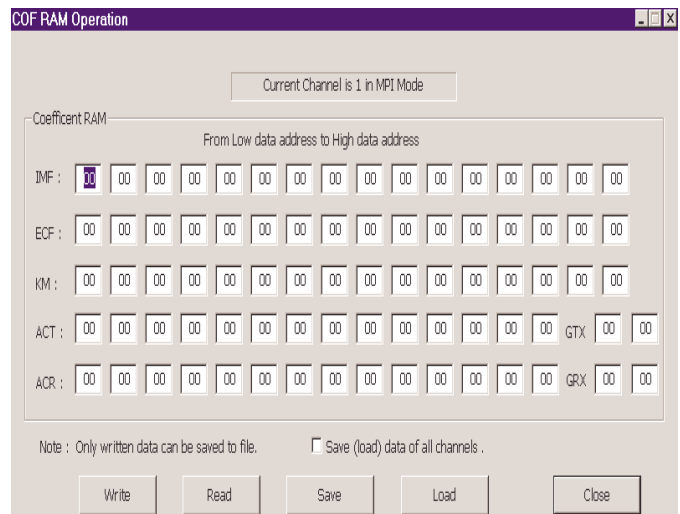

FIGURE 8. COEFFICIENT RAM OPERATION SCREEN
This test will demonstrate an end to end phone conversation between Channel 1 and Channel 2. Setting up an end to end phone conversation is accomplished with the Timeslot and PCM Highway Assignment screen (Figure 8). The IDT821068 has two PCM buses (DX1/DR1 and DX2/DR2) and can be configured up to 128 time slots on each PCM bus. The user can select any time slot and any PCM bus for a Channels transmit and receive. If the time slot assigned to the receive path of Channel X is the same one assigned to the transmit path of Channel Y, and the time slot assigned to the transmit path of Channel X is the same one assigned to the receive path of Channel Y, then Channel X and Channel Y can communicate with each other.
- From MPI Software screen, Select Timeslot. The Timeslot and PCM Highway Assignment screen will appear (Figure 8).